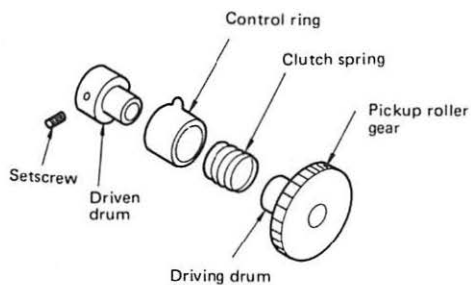
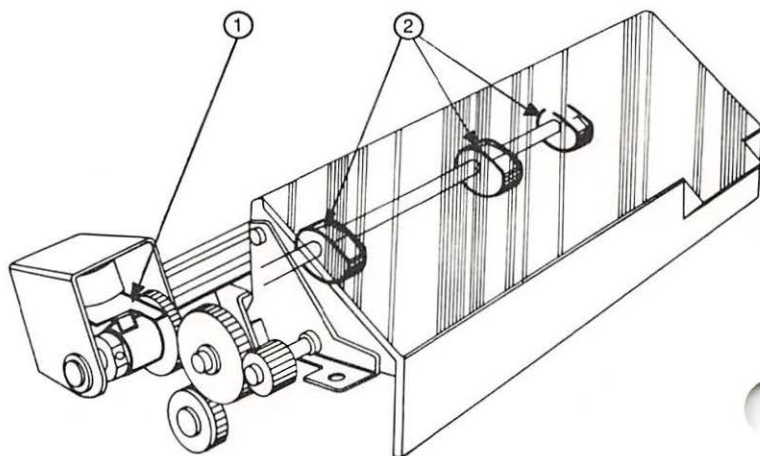

FIGURE 2-51
FIGURE 2-52
The clutch comes apart as shown in Figure 2-51. To lubricate, remove the spring and oil the inside of the spring thoroughly with tellus oil (P/N 970-0006). Then reassemble.
3. Hold the control ring (see Figure 2-51) so that its tooth firmly engages the pawl on the solenoid and the gears mesh (see Figure 2-52, #1). Turn the pickup roller shaft so that the flat side of the pickup rollers is facing up (see Figure 2-52, #2). Tighten the setscrew to hold this position.